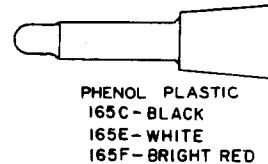

Fig. 5—165-Type Plug
2.05 **165C, E, and F:** The 165-type plugs (Fig. 5) are dummy plugs intended for switchboard cutover work and for use at test boards. The plugs are used with 218- or similar-type jacks.